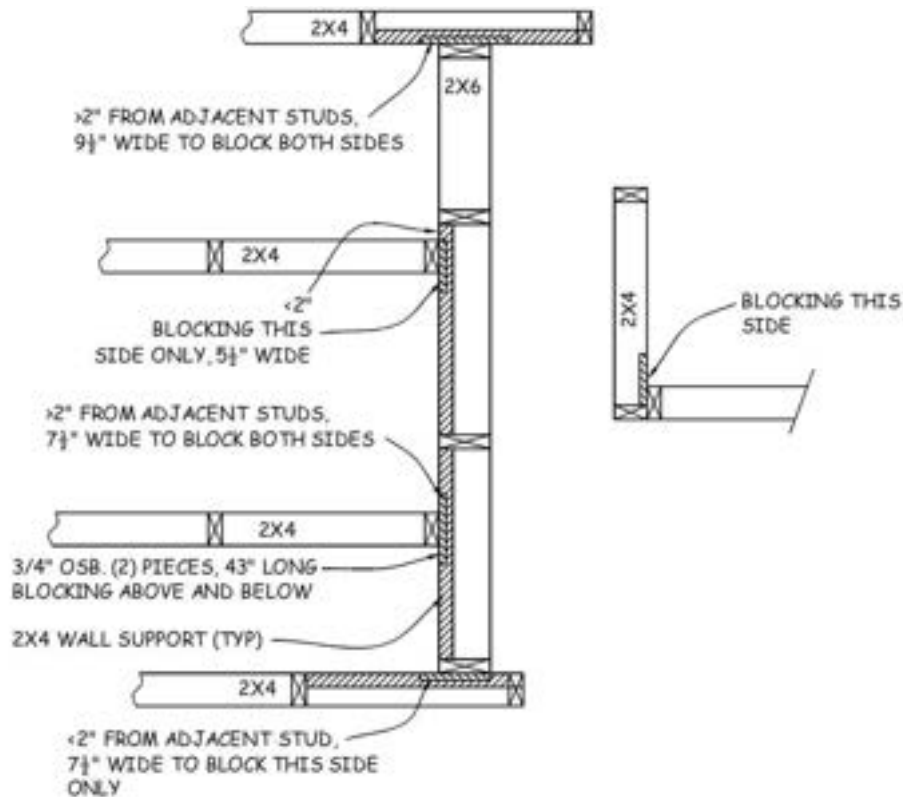

Figure 10-6. Blocking for Wall Rock.
4. Install two 43" long pieces of $\frac{3}{4}$ " OSB blocking at the ends of any interior walls that intersect an exterior wall – one above the 2x4 ladder block and one below the 2x4 ladder block. The blocking must extend at least 2" beyond the edges of the stud, so cut the OSB to a width of 5 $\frac{1}{2}$ " or 7 $\frac{1}{2}$ " for a 2x4 wall and 7 $\frac{1}{2}$ " or 9 $\frac{1}{2}$ " for a 2x6 wall. Pre-drill four pairs of $\frac{3}{16}$ " holes, spaced evenly vertically, through the stud (about $\frac{1}{2}$ "- $\frac{3}{4}$ " in from each edge). To attach the blocking, hold the piece of OSB in place, making sure it is tight (no gaps) to the outside of the end stud (use a clamp, if necessary). Attach the OSB blocking by screwing 3" sheetrock screws through the holes in the 2x4 into the OSB, turning the screw until it is buried about $\frac{1}{4}$ " into the stud. If there is access to drive screws from the blocking side of stud, it is acceptable to use two layers of $\frac{1}{2}$ " OSB. See Figure 10-6.
5. Where an interior wall intersects an interior wall (see Figure 10-6), install blocking using 2x4's, $\frac{3}{4}$ " OSB, or two layers of $\frac{1}{2}$ " OSB. Secure the blocking to the end stud using 16d nails for 2x4 blocking and 3" sheetrock screws for OSB blocking.